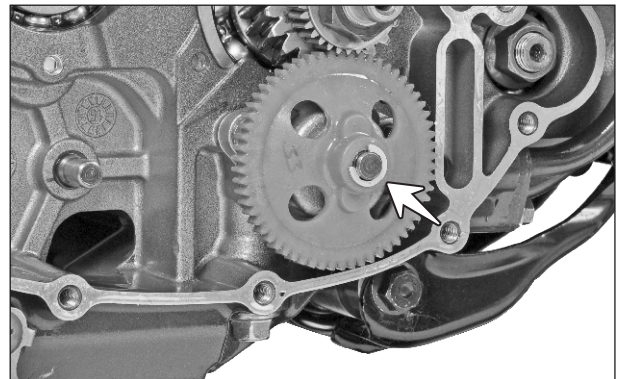

Fig. 3.118
- Remove the E-ring from the oil pump shaft and take out gear oil pump driven. (Fig. 3.118)